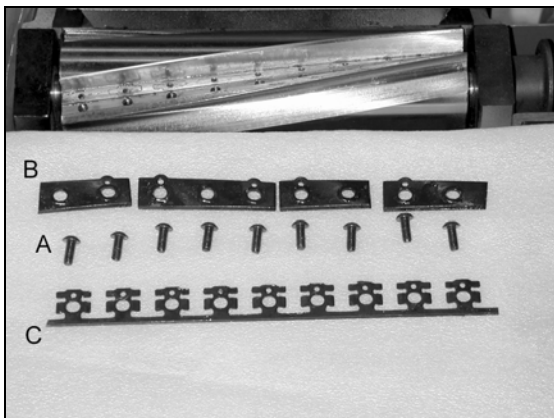

Figure 17
1. Using an allen key, remove all the screws 'A', gib plates 'B', and knife 'C' as shown in Figure 17.